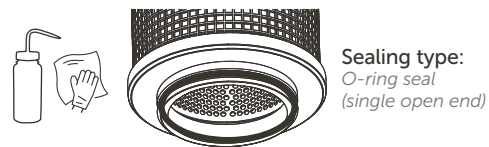

Figure 14.
4. Wet the O-rings with DI water or IPA to ease insertion of the cartridges into the housing cartridge slot, Figure 14.